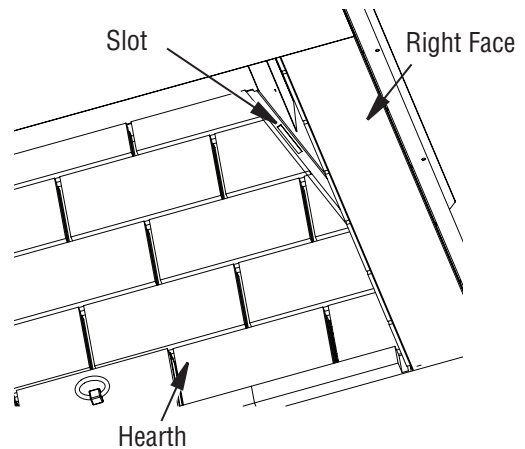

Figure 21 - Slots for Firebrick Walls
3. Install the left and right firebrick walls. There is a bracket with 2 tabs on the bottom of each firebrick wall. Angle the wall into the fireplace opening and into the slots on the side of the hearth (Figure 21), then tilt the top of the panel toward the firebox surround.